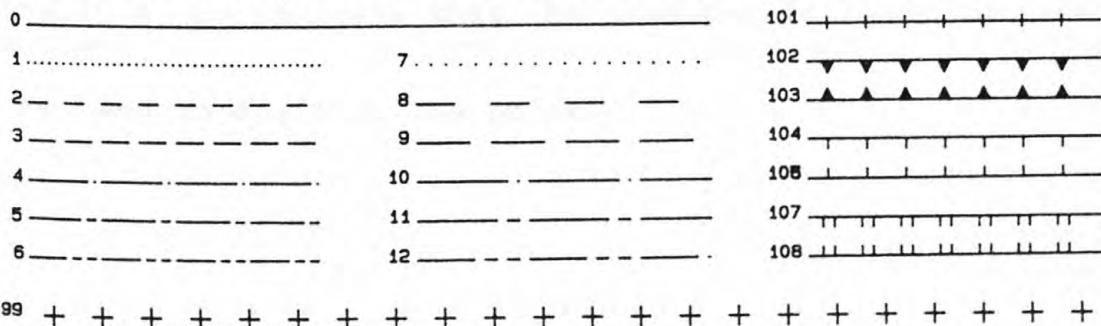

Figure 1.\_ Line types, NOT CODES; numbers to left of lines except decorated lines are line type.
1. CODE: user defined on the basis of the kind of line desired. Criteria to be considered in planning codes include, line type (pattern, solid, dashed, dotted, etc. see Fig. 1), line weight, contacts at .005", faults .015", etc., "decorations", triangles for thrust faults, etc. Following entry of the code, "A" is used to complete the entry.
Entry 3: the line type; uses line types 0-12 as specified for the plotter (see fig. 1), then a comma (,)
In Fig. 1, numbers to left of decorated lines are the number of the symbol in the CONFIG.PLT file. Lines were digitized from left to right. Direction of digitizing is important to lines decorated on one side. Symbol 9 used to decorate "line" drawn using line type 99.